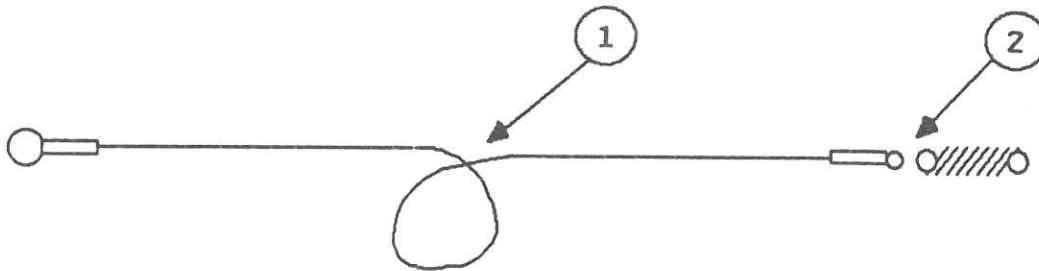

Figure 2
2. Make a loop in the wire (see Figure 2) and fit it around the ribbon drive pulley beneath the carriage assembly. Make sure the crossover in the loop (Figure 2, #1) is at the rear of the pulley.
4. Hook the **smaller** end-loop of the new wire through one hook of the spring. (See Figure 2, #2.)
5. Press down on the drive belt with the gauge until the top of the belt is 10 millimeters (about 3/8 inch) from the bottom plate of the printer (see Figure 2). The spring gauge should read between 1/4 and 1/2 pound (175 g, + or - 25 g).